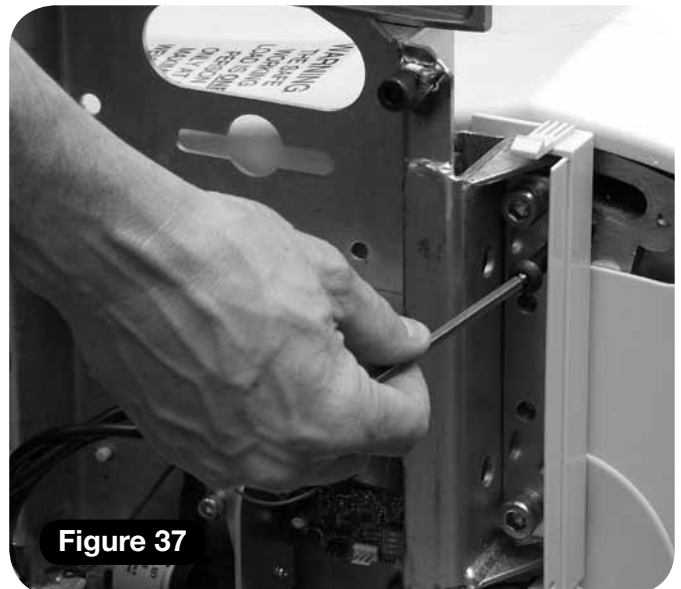

Figure 37
- 6 Fit the safety bolt (**Figure 37**). This needs to be left loose enough to allow the rear cover to pass behind it.